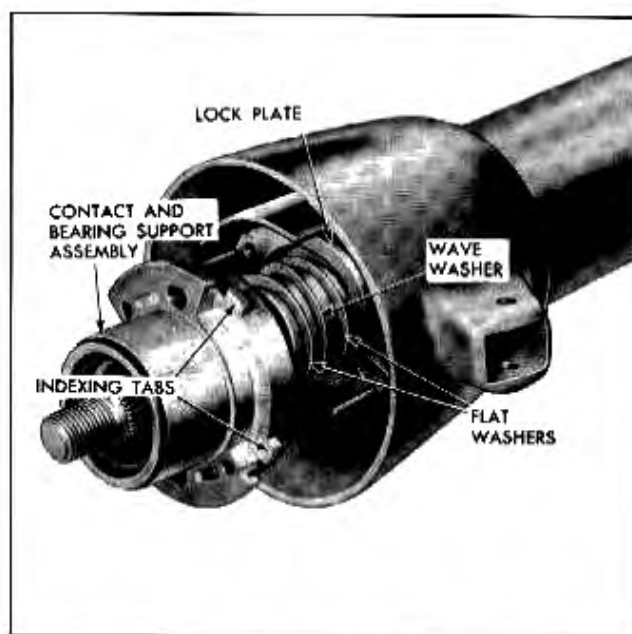

Fig. 7-5 Contact and Bearing Support Assembly
4. Pull upper bearing support out of mast jacket (Fig. 7-5).
5. Remove two flat washers and wave washer from shift tube (Fig. 7-5).
6. Disengage and remove bearing support and direction signal lock plate (Fig. 7-5).
10. Position lock plate into cutouts in steering column (Fig. 7-5).
11. Slide flat washer, wave washer, and second flat washer over shift tube against lock plate (Fig. 7-5).
12. Slide upper bearing support into place, indexing tabs (Fig. 7-5) on sides of support with opening in mast jacket. **NOTE:** If steering shaft upper bearing is replaced it should be located in bearing support so horn wire passes through opening shown in Fig. 7-10.